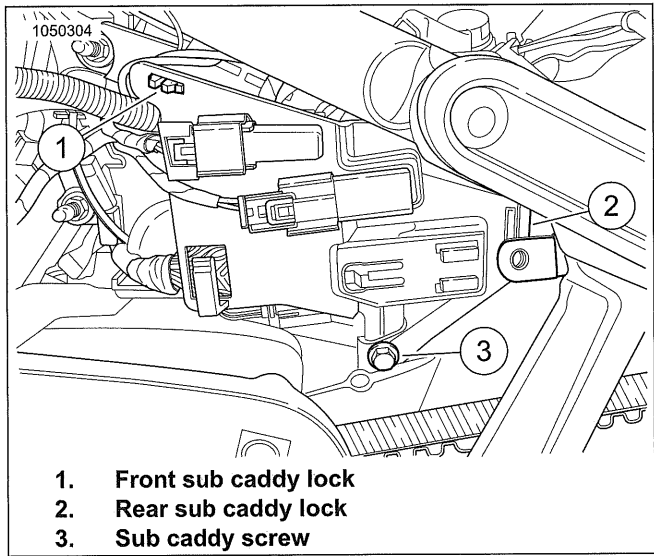

Figure 7-112. ECM Sub Caddy
- a. See Figure 7-112. Remove screw (3).
- b. Disconnect front sub caddy lock (1).
- c. Disconnect rear sub caddy lock (2).
- a. See Figure 7-112. Route sub caddy into position.
- b. Push and lock into position the rear sub caddy lock (2).
- c. Push and lock into position the front sub caddy lock (1).
- d. Install screw (3). Tighten